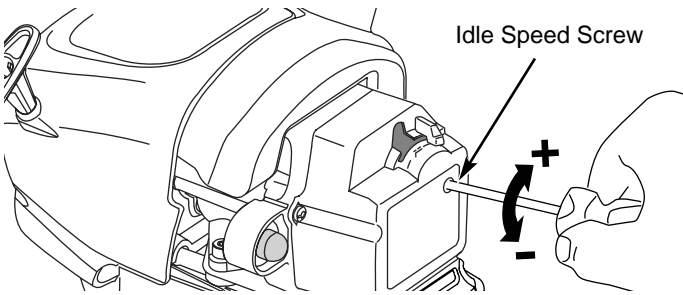

Fig. 30
The idle speed of the engine is adjustable through the air filter/muffler cover (Fig. 30).
2. Release the throttle trigger and let the engine idle. If the engine stops, insert a small phillips or flat blade screwdriver into the hole in the air filter/muffler cover (Fig. 30). Turn the idle speed screw in, clockwise, 1/8 of a turn at a time (as needed) until the engine idles smoothly.